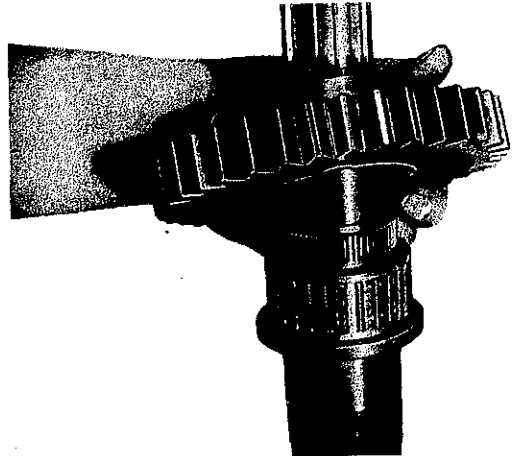

Fig. 24
1. Clamp main shaft (419) between soft jaws into vise (output end on top).
2. Slide needle cage (418) and 1st gear wheel (420) onto shaft with splining on top (Fig. 24). Position locking ring (421).